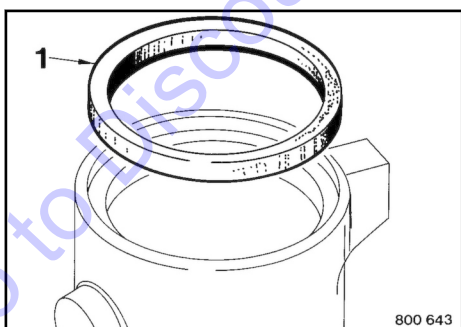

Fig. 200
5. Insert a new seal ring 1 ↗ Fig. 200 into the bearing housing.